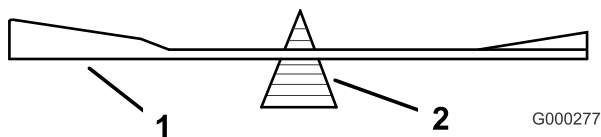
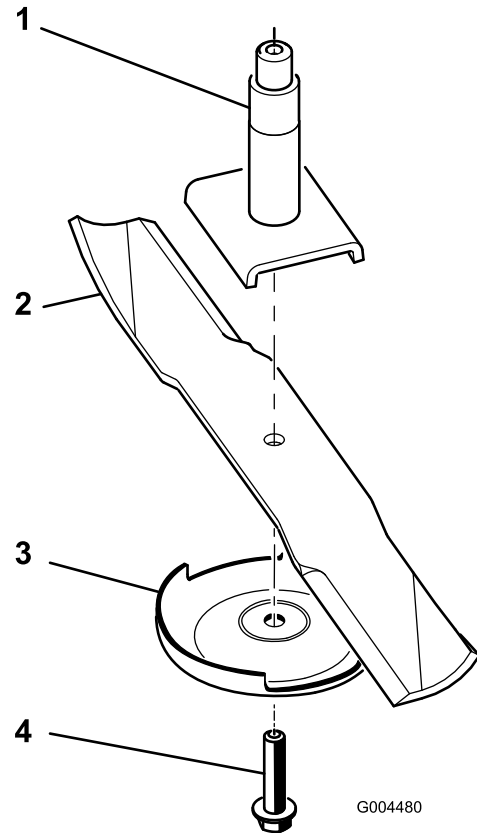

Figure 22
Figure 23
2. Remove the blade bolt, anti-scalp plate, and blade from the spindle shaft (Figure 23).
2. Check the balance of the blade by putting it on a blade balancer (Figure 22). If the blade stays in a horizontal position, the blade is balanced and can be used. If the blade is not balanced, file some metal off the end of the sail area only (Figure 23). Repeat this procedure until the blade is balanced.
1. Install the blade onto the spindle shaft (Figure 23).
2. Install the anti-scalp plate and blade bolt (Figure 23).